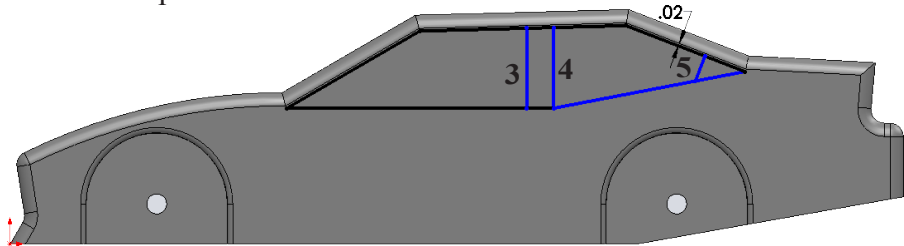

Fig. 47
Step 7. Draw 3 Lines in Fig. 47.